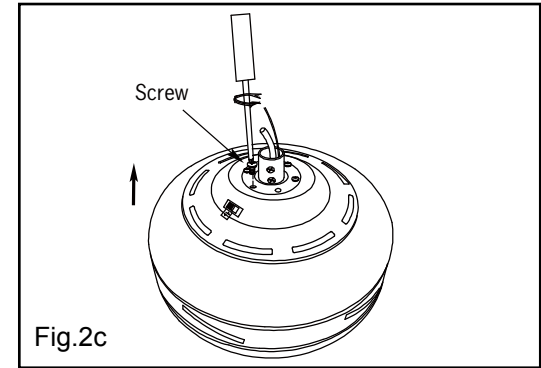

Fig.2c
**For model Preston or Cove: Fig.2c ,2d and 2e**